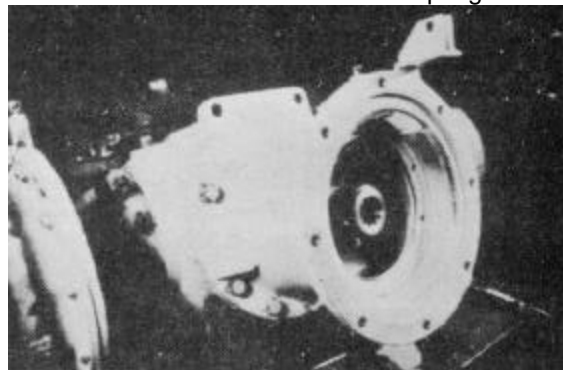

Figure 5-39
4. Remove the four 3/8 16 x 3/4" long hex head cap screws and lockwashers from the brake mounting bracket and drive motor support. Fig. 5-39 shows removal of the parking brake assembly except for the drum which remains attached to the coupling.